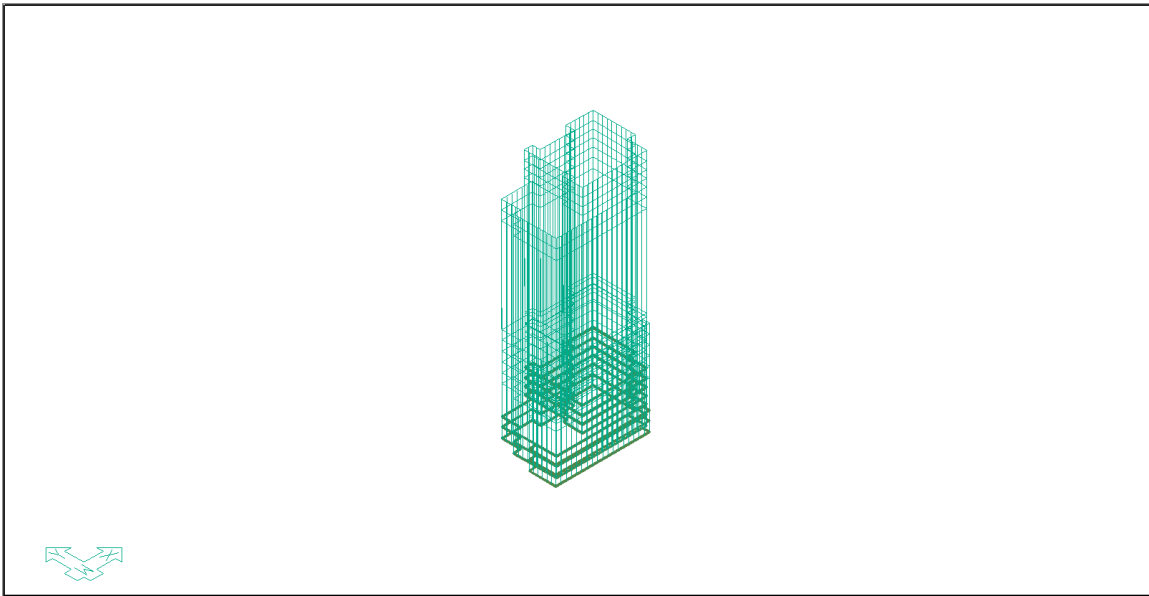

FIGURE 8-21
- Click on the **Top-Front-Right View**  icon in the *Bottom Quick Access* toolbar. This will bring you to the view of the model shown in **FIGURE 8-21**.